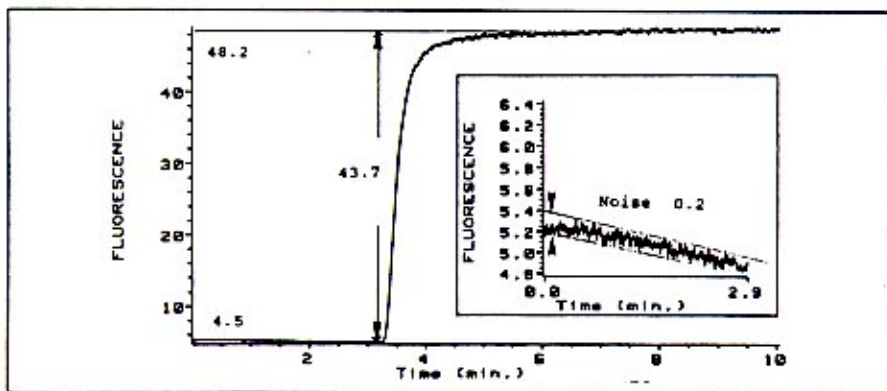

Figure 4.2-2
1. After run go to Data Editor and select the acquired rawdata file. Select the fluorescence signal (X) for evaluation.
2. Create a separate window in the right lower corner of the screen. (Use the DE command WINDOW 4.) See figure 4.2-2.
Figure 4.2-2 shows an example of signal to noise calculation.